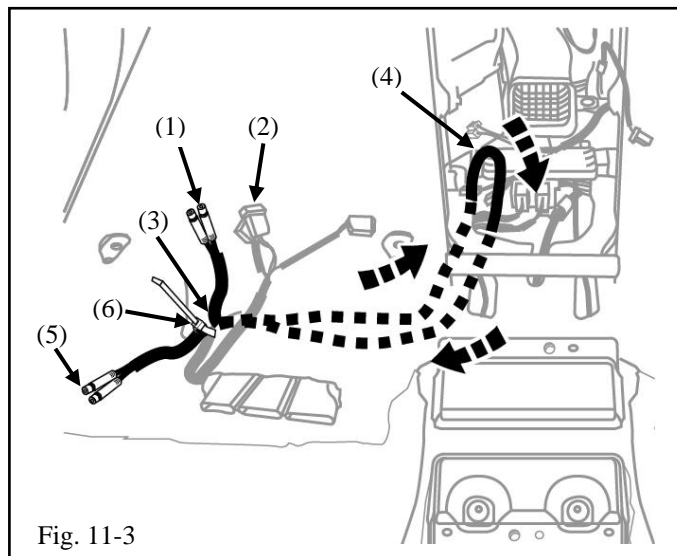

Fig. 11-3
- (1) Align the yellow and blue connectors (1) on one end of the driver side extension harness to the same length of the connectors (2) of the existing vehicle harness under the driver seat location. (Fig. 11-3)
- (2) Route the driver side extension harness along the existing vehicle harness under the carpet through the carpet opening (3) under the seat looping the excess harness (4) up into the opening of the IP. (Fig. 11-3)
- (3) Route the yellow and blue connectors (5) on the opposite end of the driver side extension harness to the same length of the connectors (2) of the existing vehicle harness under the driver seat location. (Fig. 11-3)
- (4) Secure the driver side extension harness loop to the vehicle harness using one 8" cable tie (6). (Fig. 11-3)